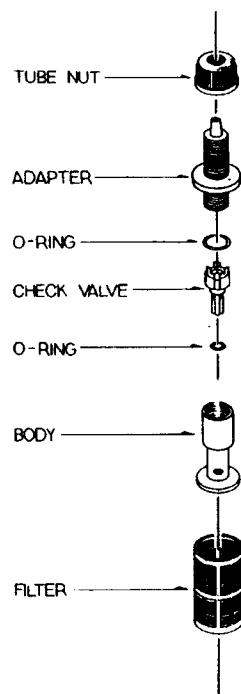

Figure 4-1. Footvalve/Strainer
- Refer to Figures 4-1 and 4-2 when reassembling the valves. Be sure all valves are working properly before installing.